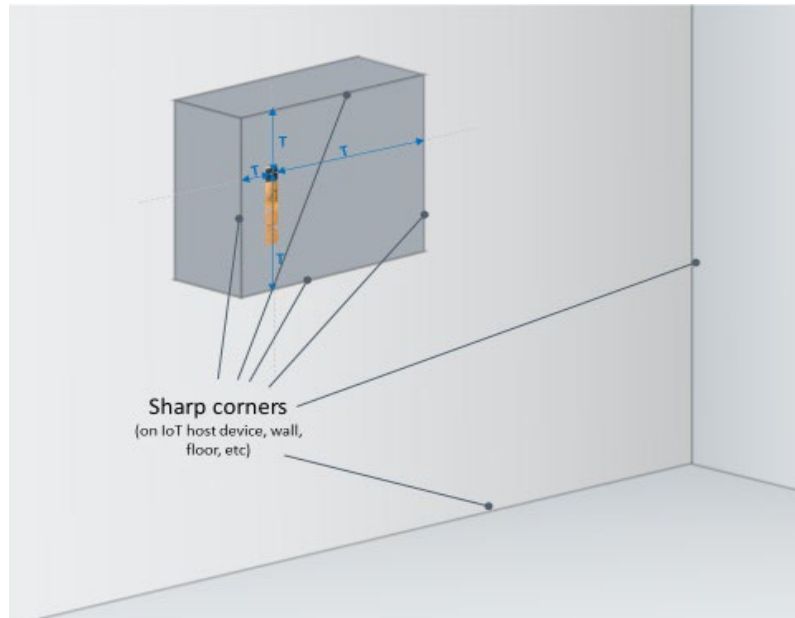

Figure 6: Placement of BMV080 away from sharp edges
- Sensor location in the host system: place the BMV080 minimum 17 mm ( $T > 17\text{mm}$ ) away from sharp edges to avoid turbulent air flows that could affect the sensor performance, see Figure 6.